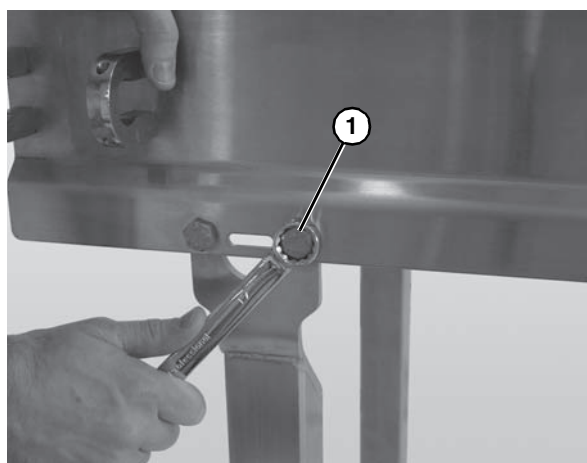

Figure 21
- Attach the stands to the frame (**Figure 21, item 1**).